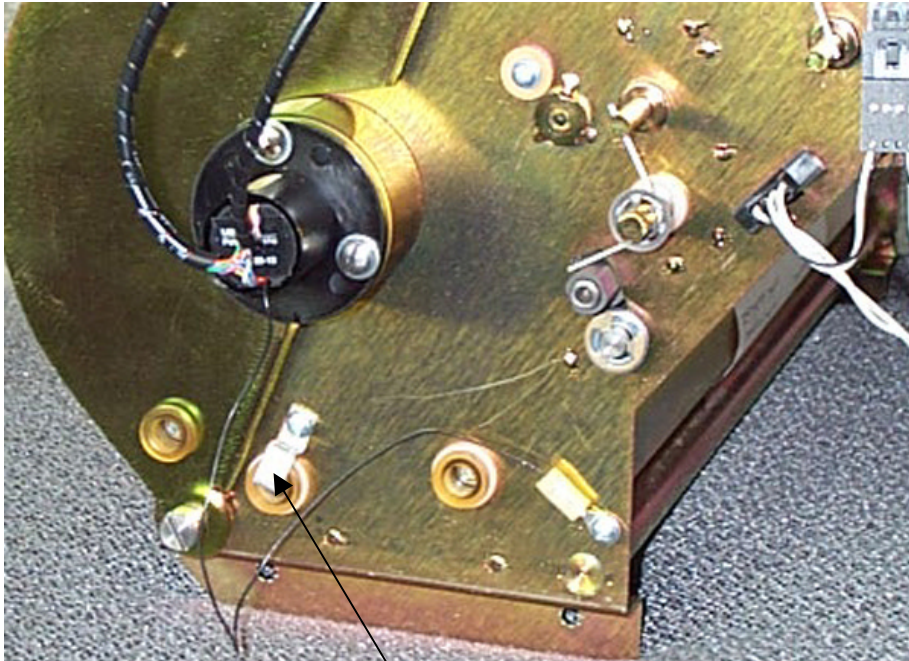

Figure 1
1. Remove the SPRING CLIPS from the FRAME and CLAMSHELL of the PROCESSOR ASSEMBLY (see Fig. 1).